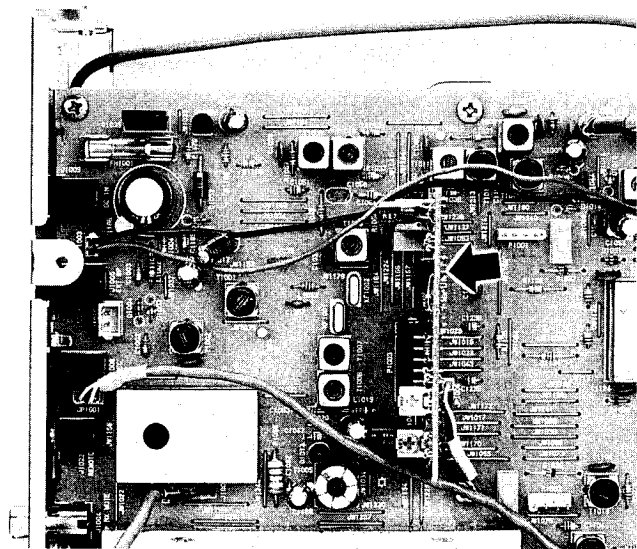

Fig. 3 FM Unit Installation
- Install the FM unit by vertically aligning the six holes on the unit connector with the six protruding pins of **P1003**, then gently pressing down to mate the FM Unit to the receiver circuit board (Fig. 3). You may now replace the cover.